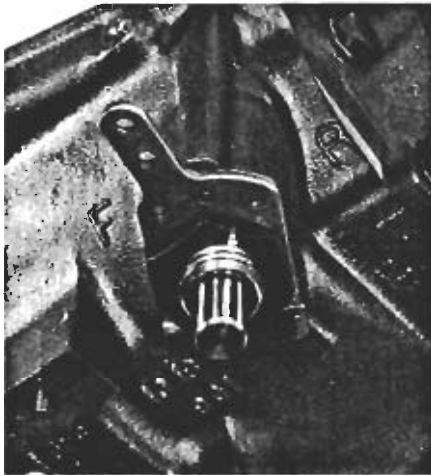

Figure 41 Selector lever in position
**STEP 63** Assemble the poppet spring and ball, selector lever and nut or solenoid, figure 41. The nut is supplied for shipping purposes and is replaced by the solenoid when unit is to be installed in vehicle.